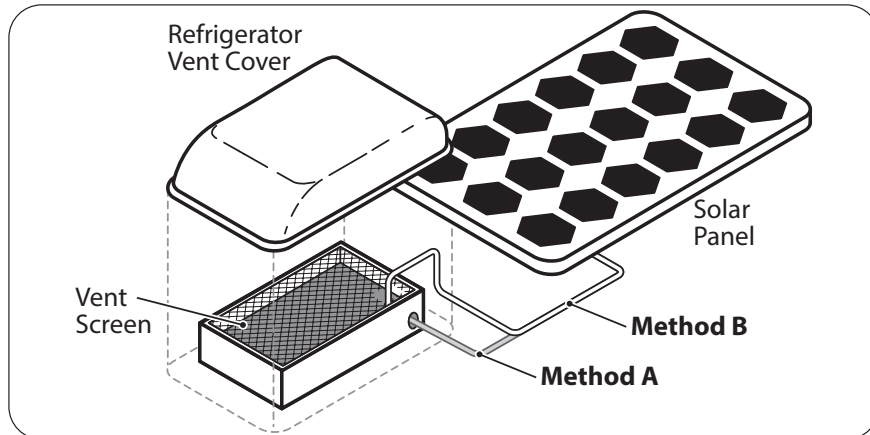

Fig. 4.6 PV Wire Entry Through RV Vent
3. The wire pair from the solar panel can be routed to the interior of the RV through the roof-top refrigerator vent. Find where the refrigerator vent is located on the roof of the RV. See Fig. 4.6.